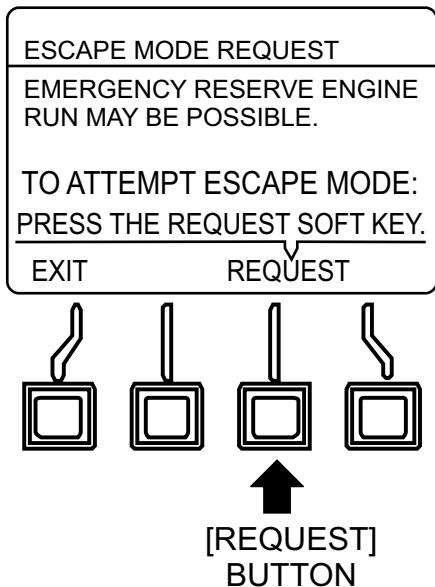

Figure 82. Escape Mode (Request Button)
6. Press the **[REQUEST]** button (Figure 82) to send "Escape Mode Request" signal to ECM.